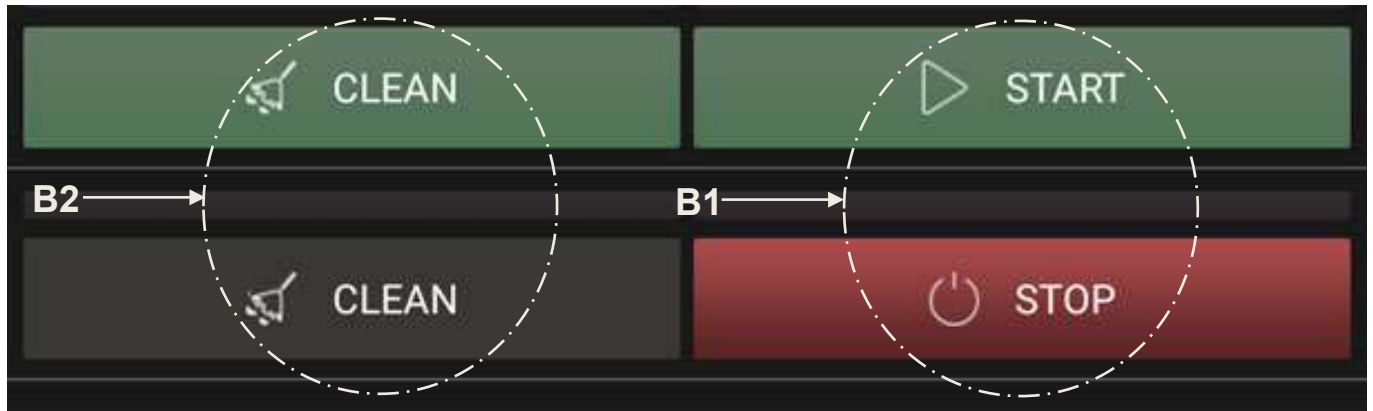

Fig. 12-2
5.1.2 Operation and Control Area B (Fig. 12-2)
The **Operation and Control Area** consists of two main buttons, as shown in **Fig. 12-2**: